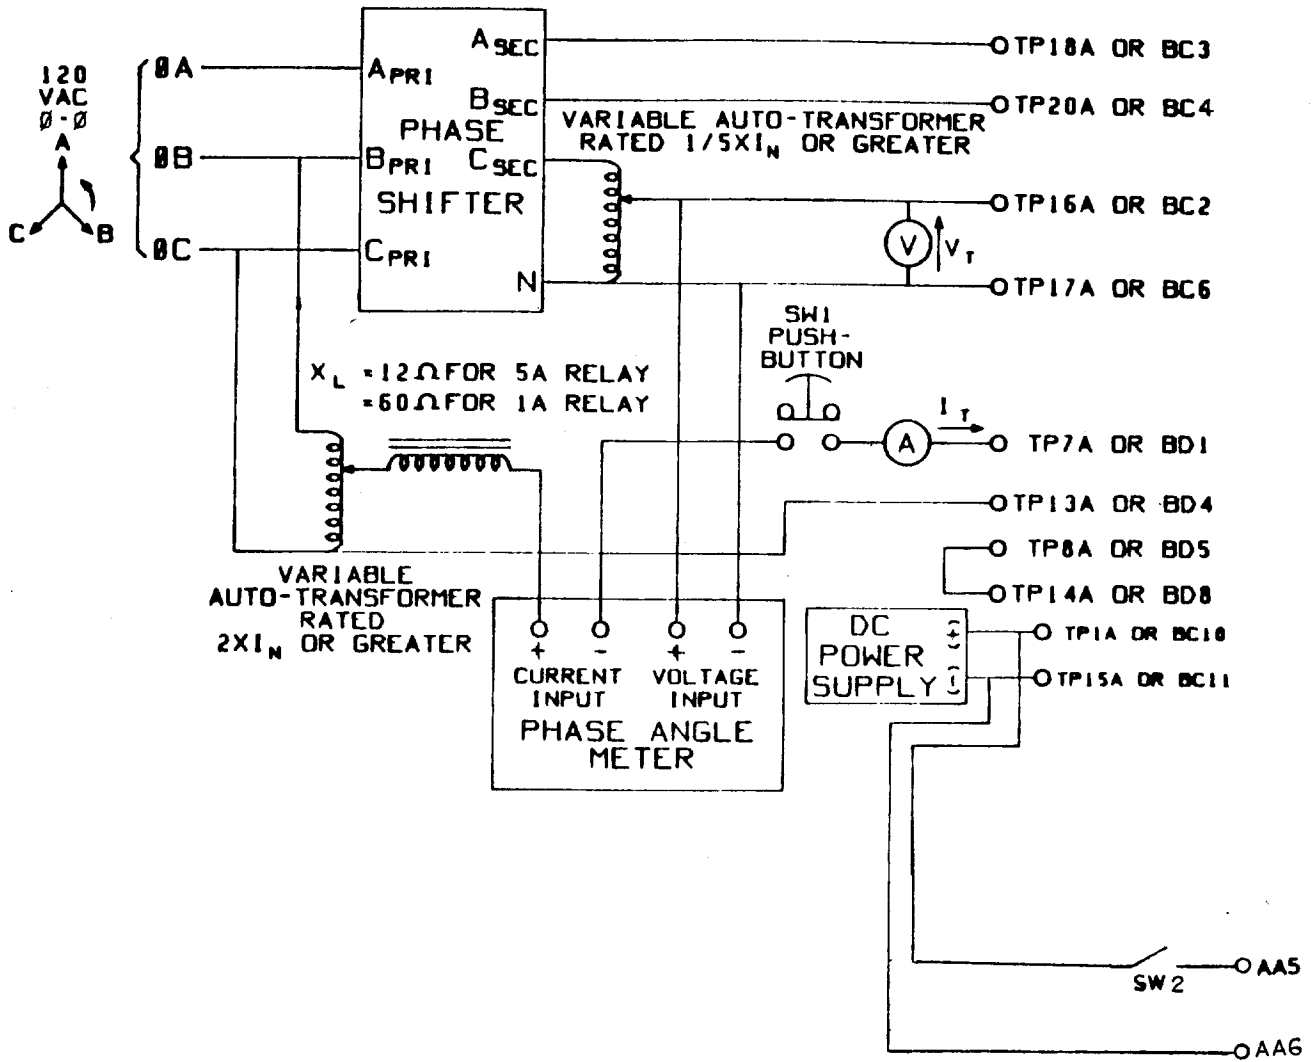

Fig. 1 (0285A8108-0) Test Circuit for Zone One Extension Tests
Connect the relay according to the test circuit in Fig 1 of this supplement. Remove the DTM101 module and set the LOGIC switches so that D only is closed. Reinsert the module. Make the following reach and angle settings:
Bench-top Test - Fig. 1 of this booklet
- Fig. 1 (0285A8108-0) Test Circuit for Zone One Extension Tests